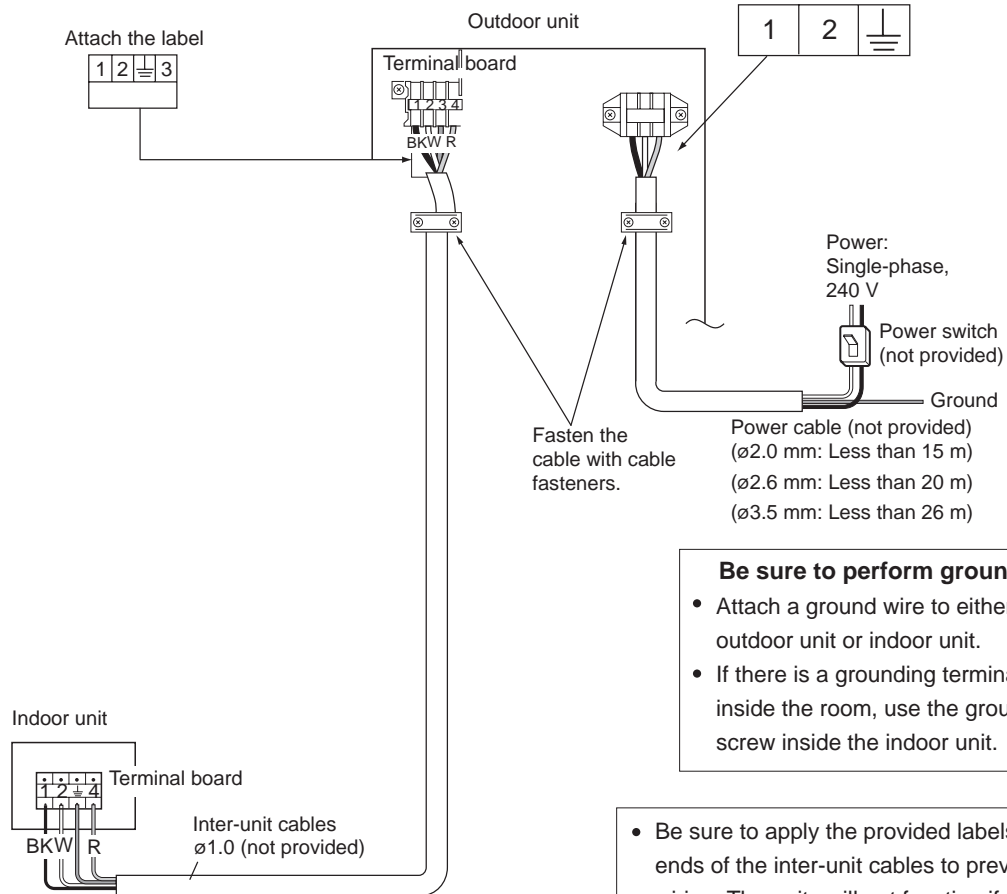

Fig. 32
- Arrange the wiring so that the inter-unit cables are contained in the inspection panel and tubing panel, as shown in Fig. 32.